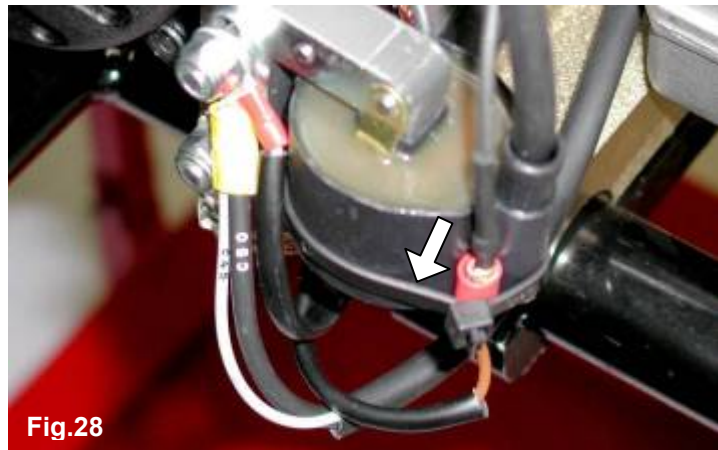

Fig.28
**FASTEN THE H.T. COIL CABLE WITH A PLASTIC CLAMP TO AVOID THAT EVENTUAL VIBRATIONS MIGHT DISCONNECT THE TERMINALS (SEE FIG.28).**